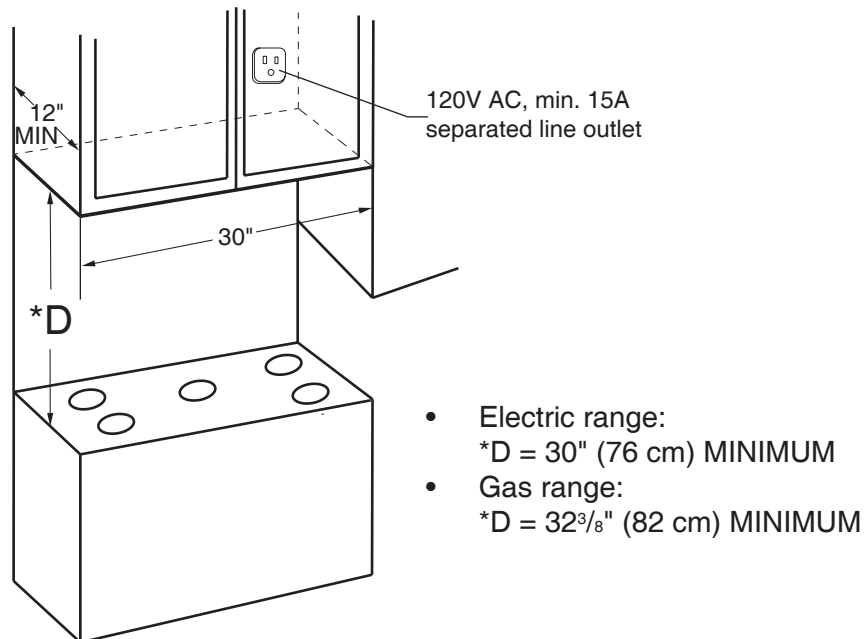

Fig. 1
1. Confirm the separated line electric outlet. (Fig. 1)